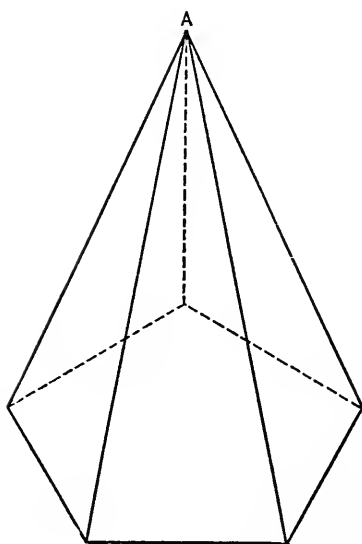

FIG. 27
A pyramid is a body whose base is a polygon but whose sides are all triangles, meeting at one point (A), called the vertex of the pyramid. (Fig. 27.)